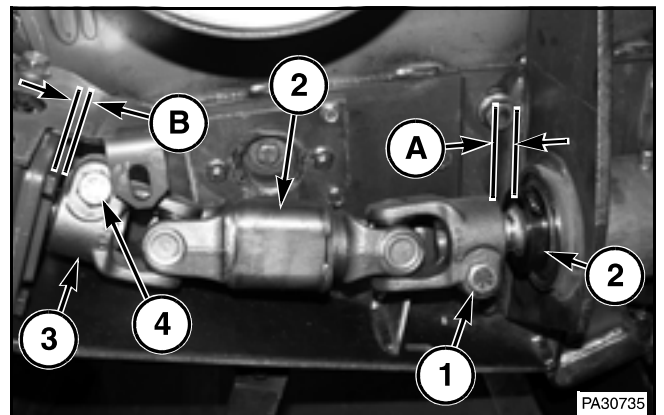

FIG. 65
FIG. 65: Check the shock absorber U-joint assembly to make sure there is a 22 mm (7/8 in) gap (A) between the front yoke (1) and threaded collar (2). Also keep at least a 1 mm (0.040 in) gap (B) between the rear yoke (3) and the gearbox to give the correct U-joint angle. If necessary, loosen the lower U-joint clamp bolt and move the U-joint assembly to get the correct dimensions.